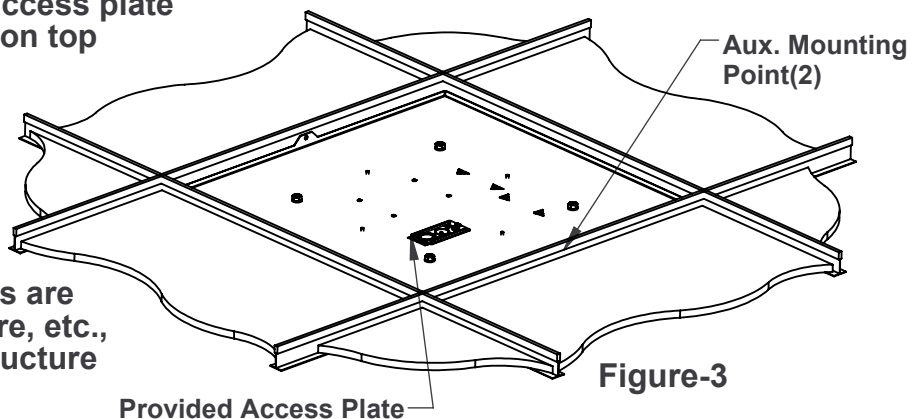

Figure-3
- 3) Make sure electrical supply is NOT energized, then make supply connections in access plate provided in ceiling mounting plate on top of the fixture. (see Figure-3)
- 4) Additional auxiliary mounting points are provided. Chains, cables, rigid wire, etc., may be employed to supportive structure above the fixture. (see Figure-3)